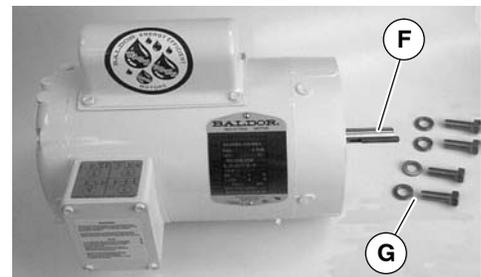
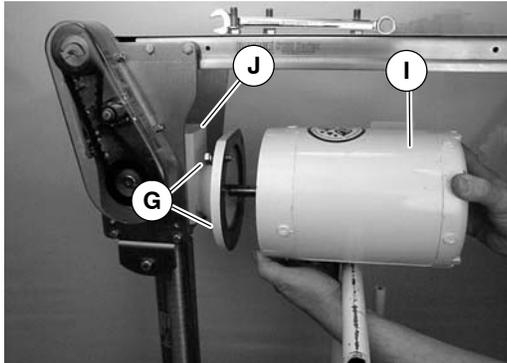

Figure 10
Figure 11
8. Install key (F of Figure 10).
- Attach gear motor (I of Figure 11) to gear reducer (J) with screws and washers (G of Figure 10). Tighten to 32 ft-lb (41 Nm).